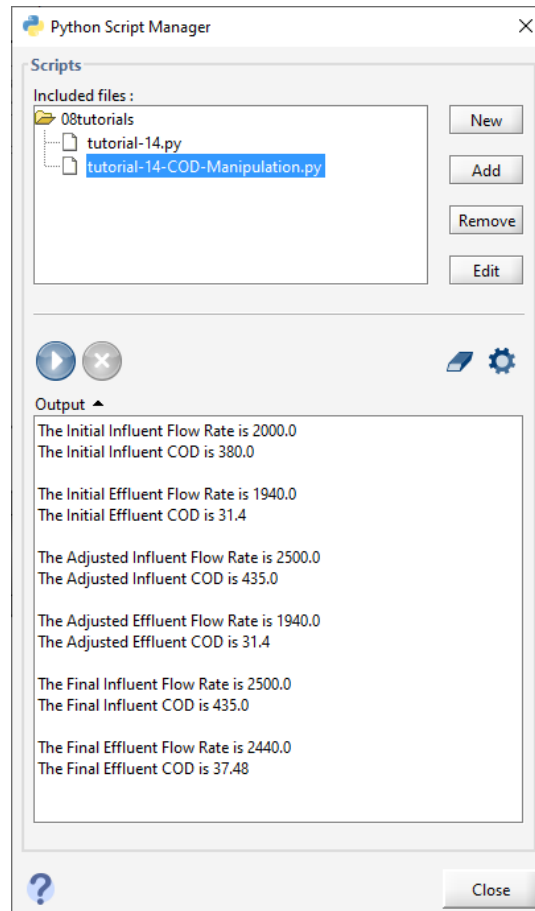

Figure 14-14 - Output of the tutorial-14-COD-Manipulation Python Script
16. **Run the Script.** The simulation output can be seen in **Figure 14-14**. From the output, it is important to note that changing the value of a GPS-X variable with Python will not have an immediate effect on the other variables in GPS-X. This is illustrated when looking at the Adjusted influent and effluent variables in the output. Well Python changes the influent variables, the effluent variables remain unchanged. The effluent variables will not be calculated until the simulation resumes. You can use Python to access the newly calculated effluent variable values at the next communication interval.